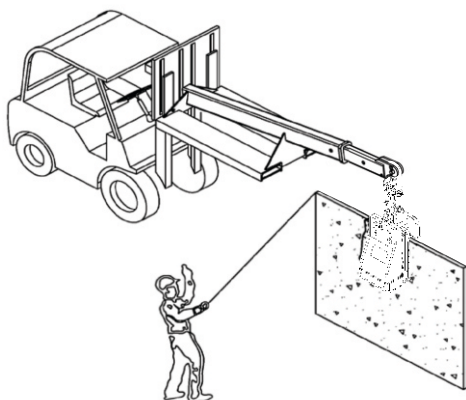

Figure 4.1
Step 4: Move the stone slab to the desired position (Figure 4.1).